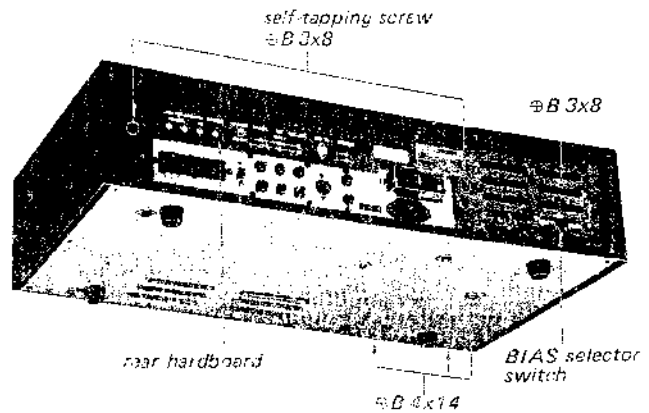

Fig. 2-2. Cassette deck removal
1. Remove the two self-tapping screws ( $\text{⊕B3x8}$ ) securing the rear hardboard to the chassis as shown in Fig. 2-2.
5. Remove the three screws ( $\text{⊕B4x14}$ ) securing the cassette deck to the wooden case as shown in Fig. 2-2.